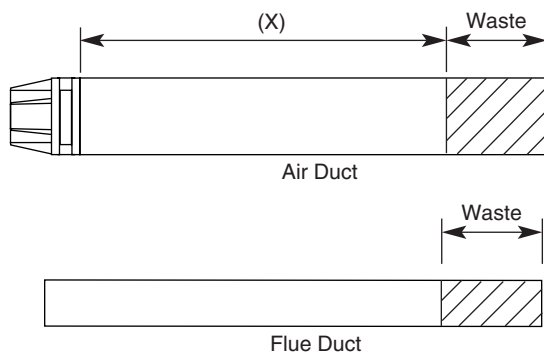

Fig. 24
3. Mark dimension "X" on the air duct, measuring from the joint of the duct and terminal. The remainder is waste material (Fig. 24).
4. Measure the length of waste and transfer the dimension to the flue duct (Fig. 24).